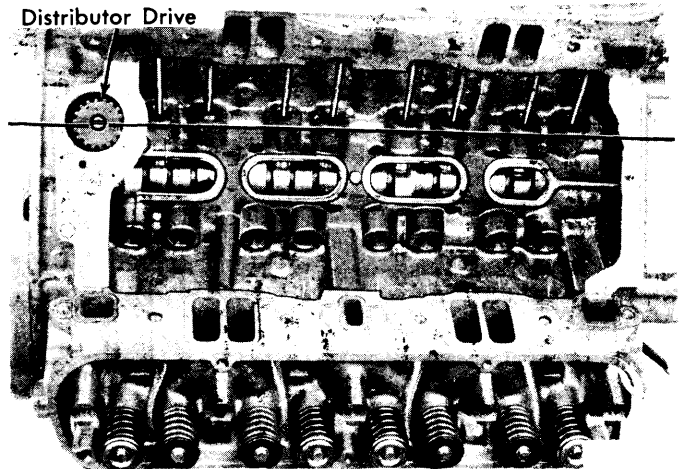

Fig. 18 Alignment of Distributor Gear with Engine for Distributor Timing
**Distributor Timing** – Before installing distributor-oil pump drive shaft, time engine as follows: Rotate crankshaft so number one cylinder is at top dead center on firing stroke. Straight line on vibration damper should be under "O" on timing indicator. Coat shaft and drive gear with engine oil. Install shaft so that when gear spirals into place, it will index with oil pump shaft, so slot in top of drive gear will point straight down lifter bosses, parallel with camshaft (see Fig. 18).